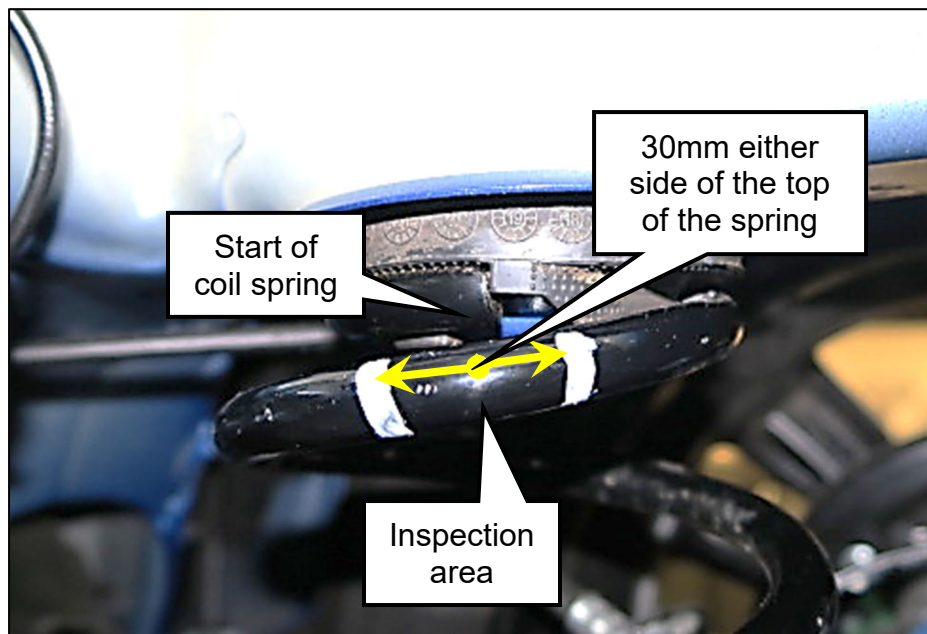

Figure 2
- Check for indentations around the coil, in the inspection area shown in Figure 2
Note: The inspection area in Figure 2 was marked with white paint.